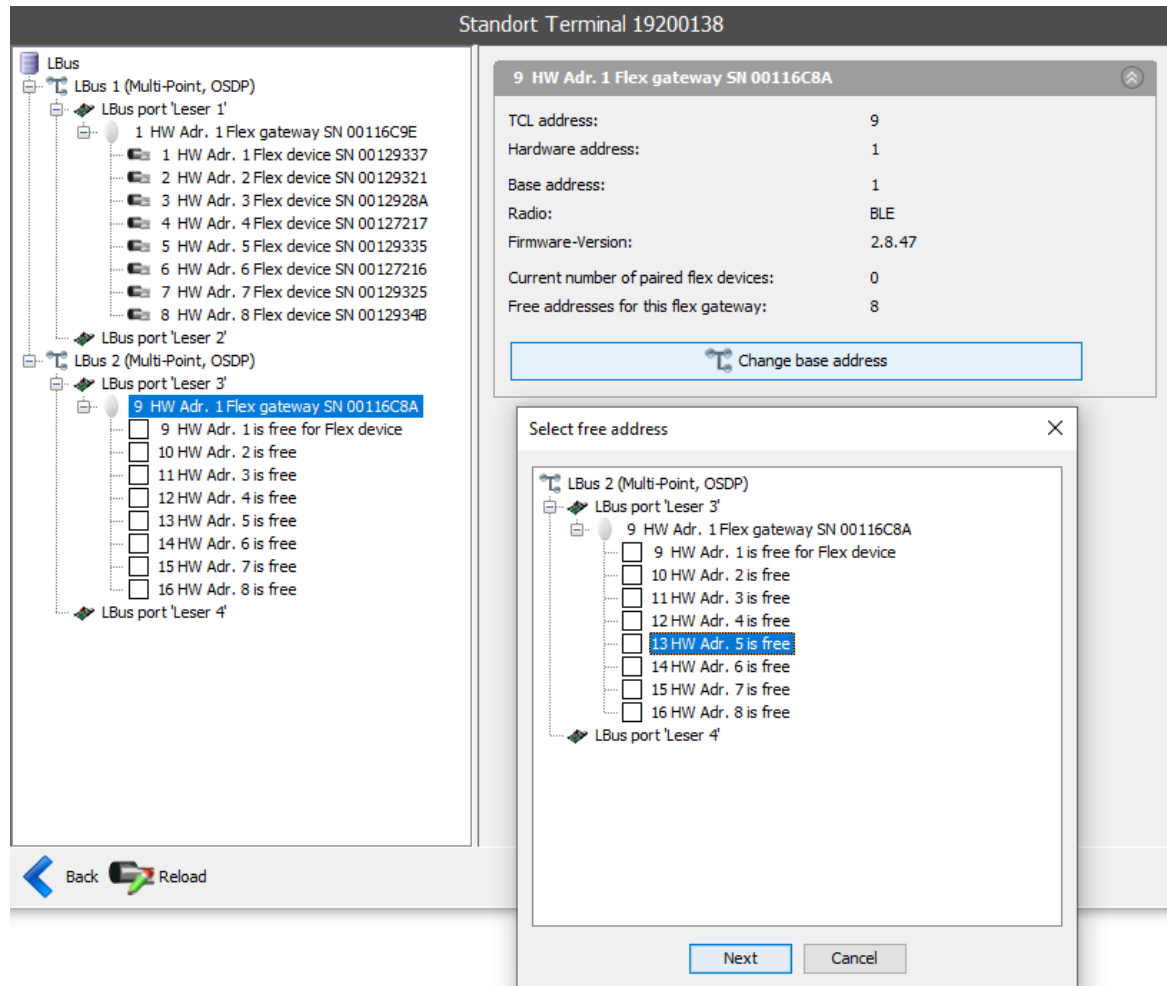

Figure 18-6: Select free address
In the following example, a gateway is connected to LBus 2 with the HW-address 9. No other Flex devices are paired. To modify the base address, select a free address. In this example in Figure 18-6, the free address 13 is selected.
- Select the applicable configuration, as shown in Figure 18-6 and click "Next" to continue.